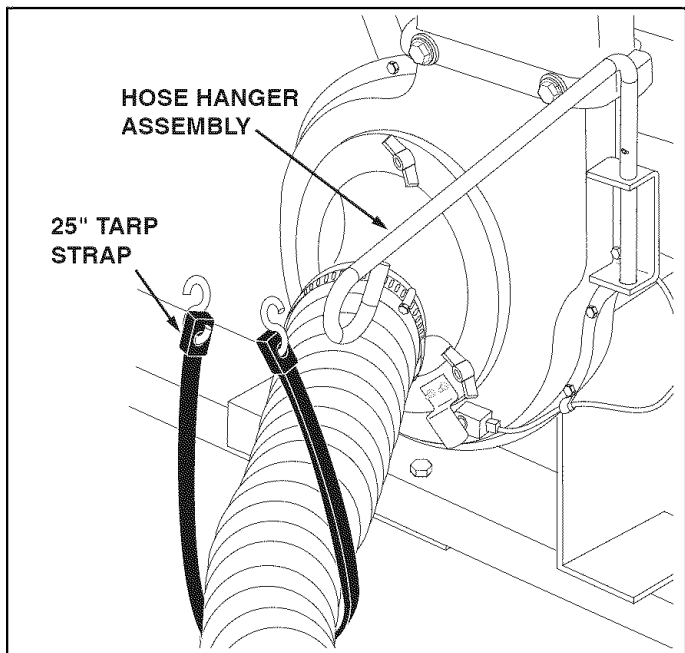

FIGURE 12
15. Loop the 25" tarp strap under the hose. Fasten the hooks to the hose hanger rod assembly. See figure 12.